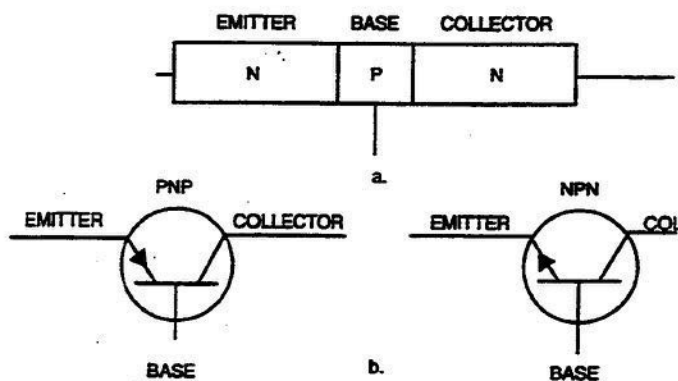

Figure 3-4. Pictorial and schematic transistor symbols.
**Types.** There are two types of transistors—PNP and NPN. The PNP type is made by fusing N-type material between two pieces of P-type material. NPN-type transistors are made by fusing P-type material between two N-type materials. The upper part of figure 3-4 shows a pictorial representation of a transistor. The lower part of the figure shows the electrical symbols for both types of transistors.